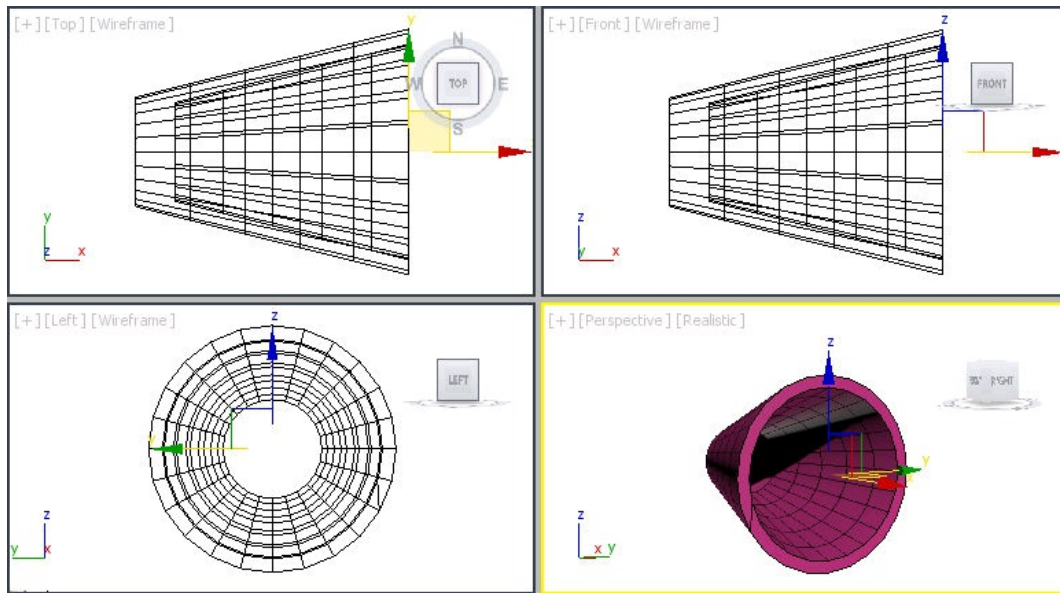

Figure 11-68 The *cap01* after performing the Subtraction(A-B)
12. In the **Pick Boolean** rollout, select the **Move** radio button, if it is not already selected. Choose the **Pick Operand B** button and move the cursor over *cap002*; the shape of the cursor changes. Select *cap002*; the overlapping portion of *cap002* is removed from the *cap01*. Next, switch to Shaded mode in the Perspective viewport. Figure 11-68 shows *cap01* in the viewports. Next, right-click to exit the boolean command.